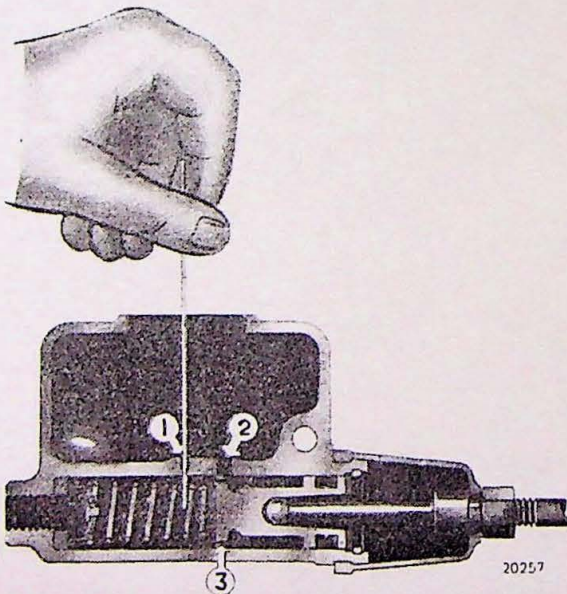

Fig. 7.
Before assembling check that both of the holes (1 and 2, Fig. 7) which connect the oil reservoir to the pump cylinder are open. At the same time check that the penetrating holes (3) in the plunger are free from dirt.
1. Fit the gasket (11) in the pump cylinder and then the valve and return spring (10 and 9).
2. Fit the rear gasket (6) and lock ring (5) on the plunger (7) and push the plunger gasket (8) and plunger into the cylinder. Fit the stop washer (4) into place and then fit on the lock ring (3).
3. Put the push rod (2) in the plunger (7) and pull the rubber cover (1) over the projection on the master cylinder.
4. Fit on the three-way junction (16) with the brake contact.
5. Check that the plunger gasket (8) does not obstruct the equalizer hole (1, Fig. 7). Push a piece of wire through the hole for the filler cap and equalizer hole. It should then be possible to push in the plunger about 0,2—0,3 mm (.008"—.012").